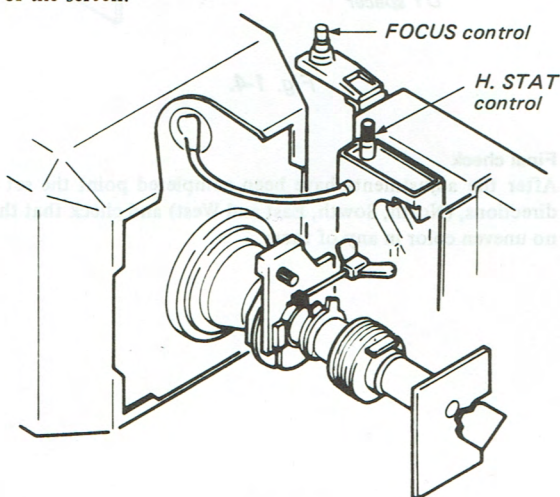

Fig. 1-7.
1. Adjust H. STAT to overlap R and G in the horizontal direction, at the center of the screen. (Fig. 1-7)